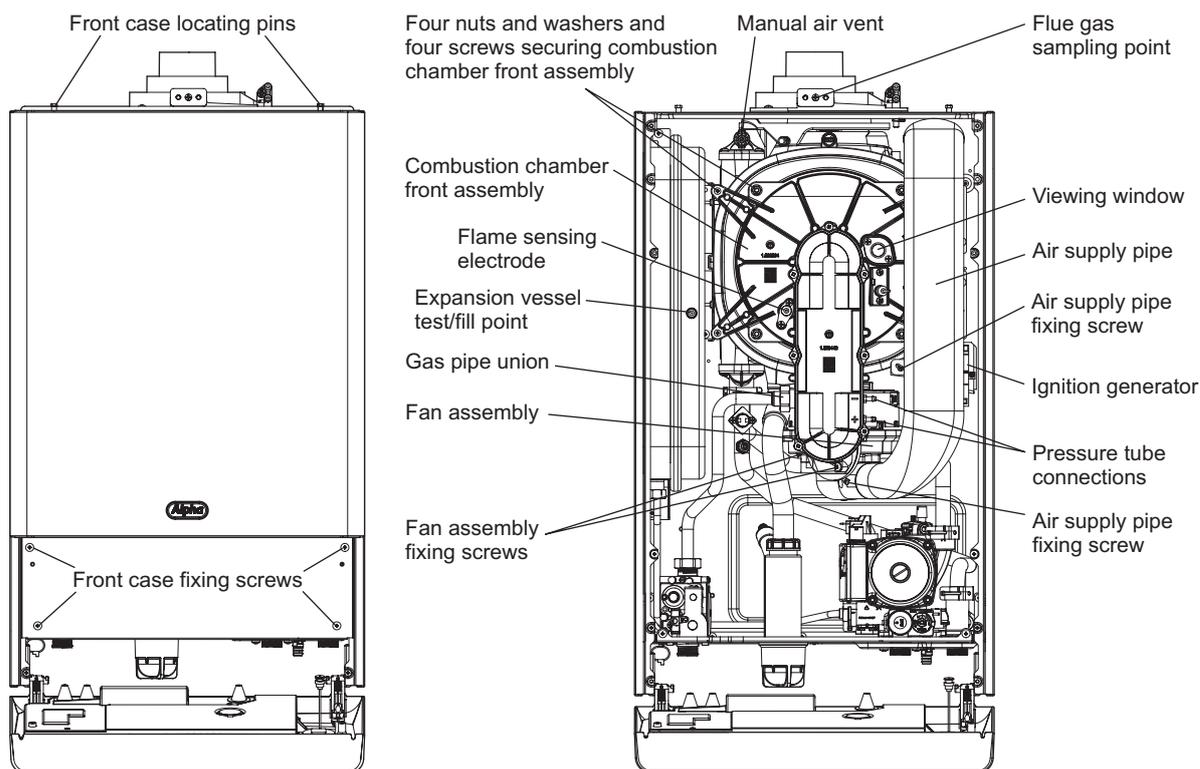

Fig. 29
6.2 PREPARE FOR SERVICING - Fig. 29
7.1 GENERAL ACCESS - Fig. 29
7.5 BURNER INJECTOR - Fig. 29
7.6 FAN - Fig. 29
2. Remove the two screws securing the air supply pipe (see Fig. 29) and remove the pipe.
3. Unplug the fan plug and remove the two screws securing the fan to the combustion chamber front (see Fig. 29).
2. Remove the screw securing the air supply pipe (see Fig. 29) and remove the pipe.